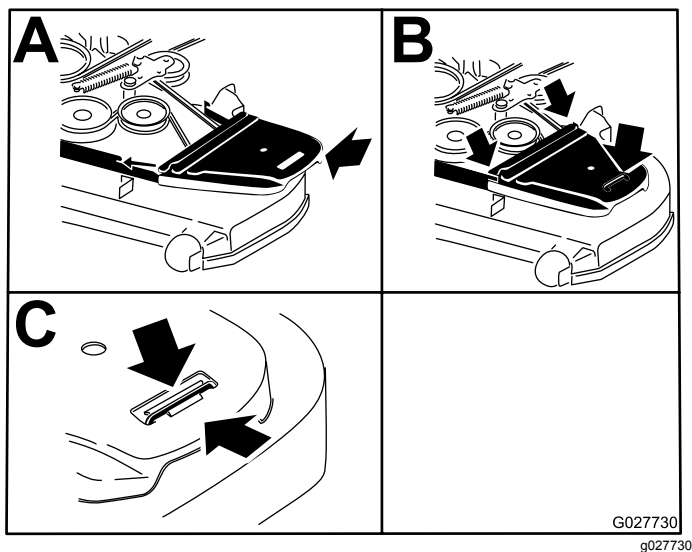

**Figure 79**
5. Use a ratchet in the square hole in the idler arm to remove tension on the idler spring (Figure 79).
7. Remove the belt guide on the spring-loaded idler arm shown in Figure 79.
9. Install the new belt around the mower pulleys and the clutch pulley under the engine (Figure 79).
10. Install the belt guide on the idler arm shown in Figure 79.
11. Using the ratchet in the square hole, install the idler spring (Figure 79).